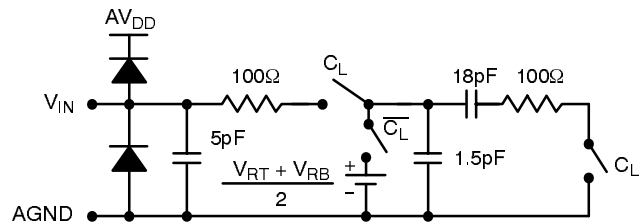

Figure 8. Equivalent Input Circuit
- ⁵ See V_{IN} equivalent circuit (Figure 8.). Switched capacitor analog input requires driver with low output resistance.
This part has a switched capacitor type input circuit. This means that the input impedance changes with the phase of the input clock. *Figure 8.* shows an equivalent input circuit.